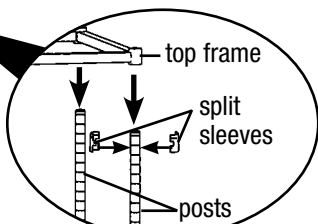

Figure 4a
- A. Snap split sleeves onto the 2nd groove from the top of each post (see *Figure 4a*).
- B. Slide the top frame down over the posts (see *Figure 4a*) and secure snugly onto split sleeves. Assembly is complete.